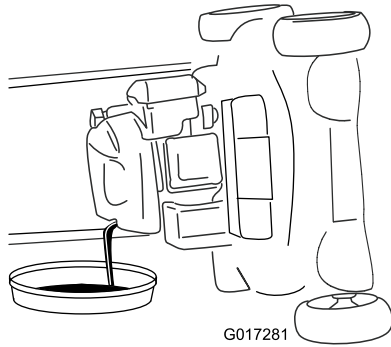

Figure 33
4. Tip the machine onto its side (so that the air filter is up) to drain the used oil from the oil-fill tube (Figure 33).